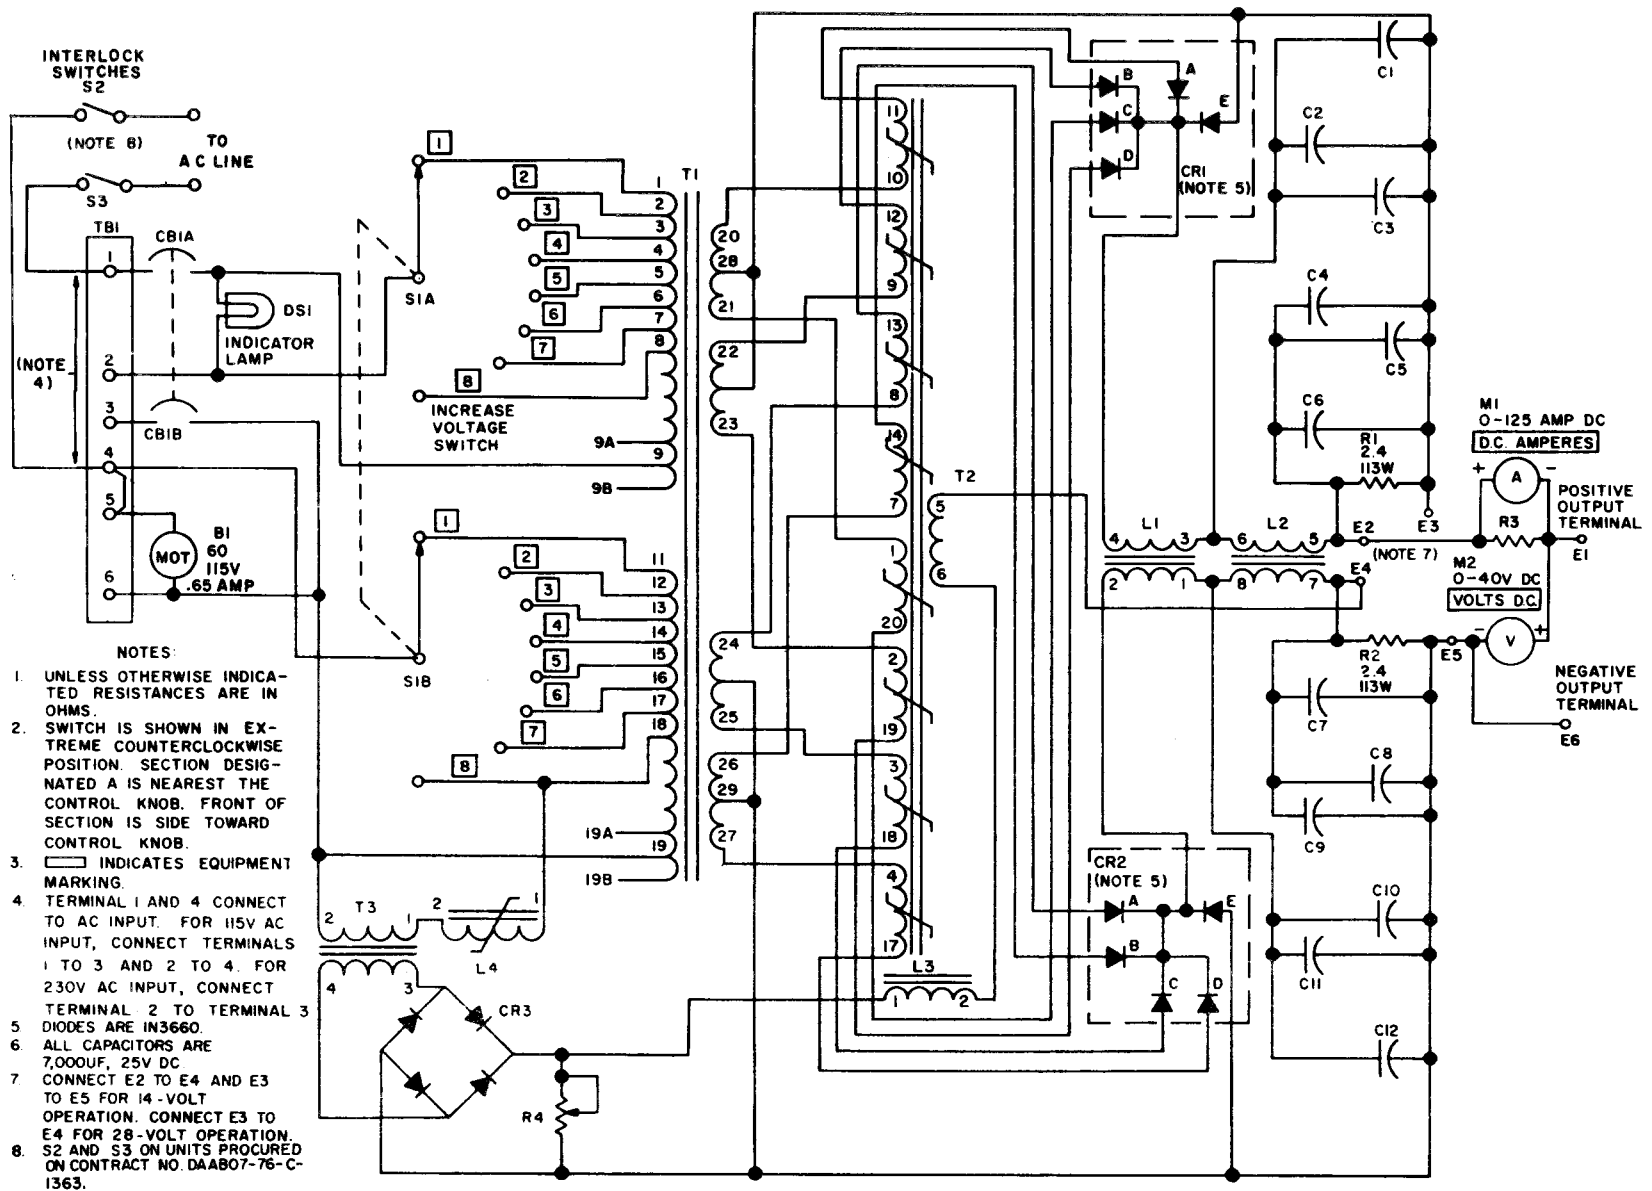
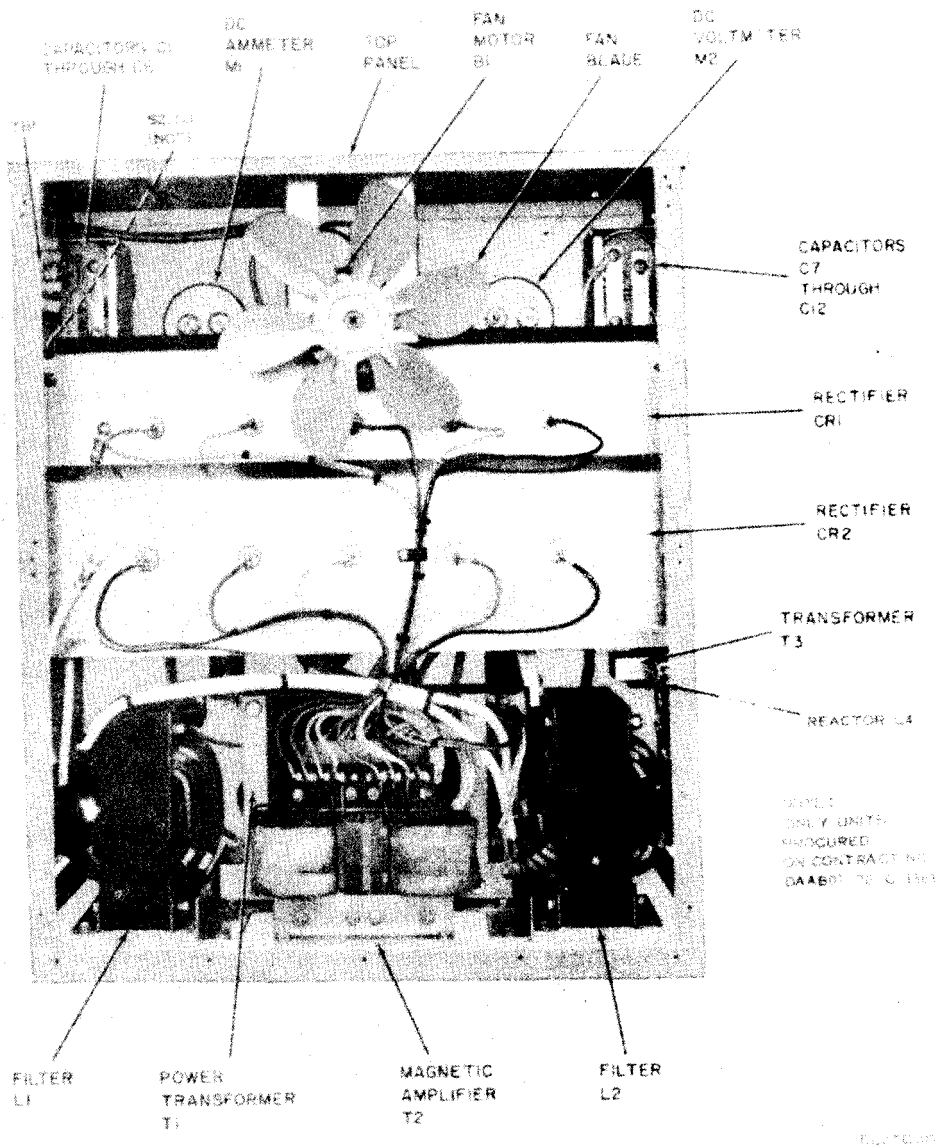

Figure 1-2. Power Supply PP-1104CG, schematic diagram.
Figure 2-1. Power supply, rear panel removed.
(fig. 1-2)
(fig. 1-2.)
*a. General.* In the troubleshooting chart (*d* below), procedures are outlined for localizing troubles and for isolating troubles within the various circuits of the power supply. Refer to figures 2-1 and 2-2 for parts location. Refer to the schematic diagram (fig. 1-2) to identify circuit components and to the wiring diagram (fig. 5-3) for point-to-point circuit wiring and connections. Voltage and resistance